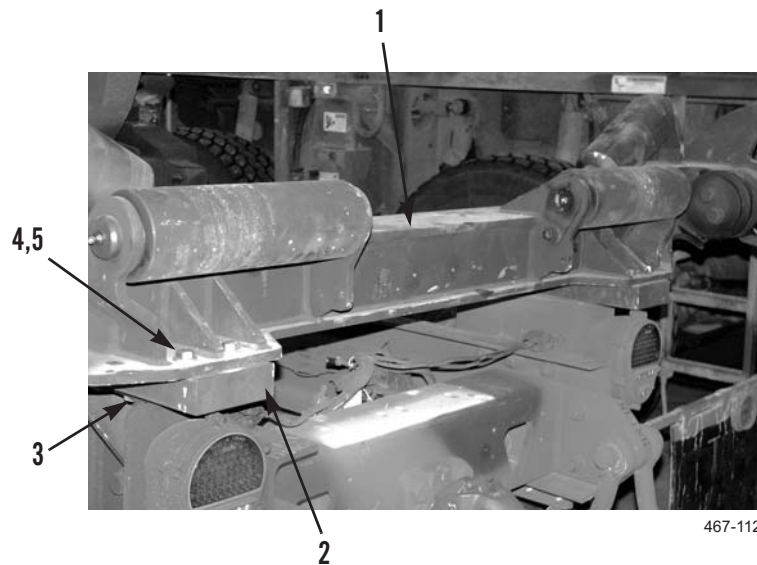

Figure 38. HEMTT Slider Assembly Installation.
8. Install four washers (Figure 38, Item 4) and bolts (Figure 38, Item 5) in slider assembly (Figure 38, Item 1).
10. Tighten three bolts (Figure 38, Item 3) securing mounting blocks to frame, and four bolts (Figure 38, Item 5) securing slider assembly to mounting blocks.